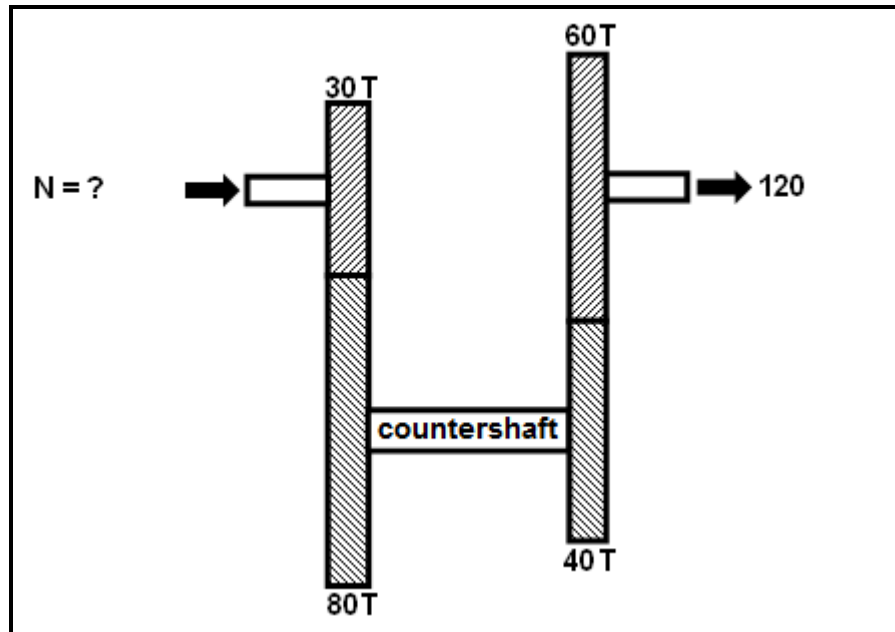

FIGURE 11.5
- 11.5 FIGURE 11.5 below shows a compound gear train. A driver gear on the axle of the electric motor has 30 teeth that mesh with a gear on the counter shaft with 80 teeth. On the counter shaft is another driver gear with 40 teeth that mesh with a gear with 60 teeth. The rotation frequency is 120 r/min.